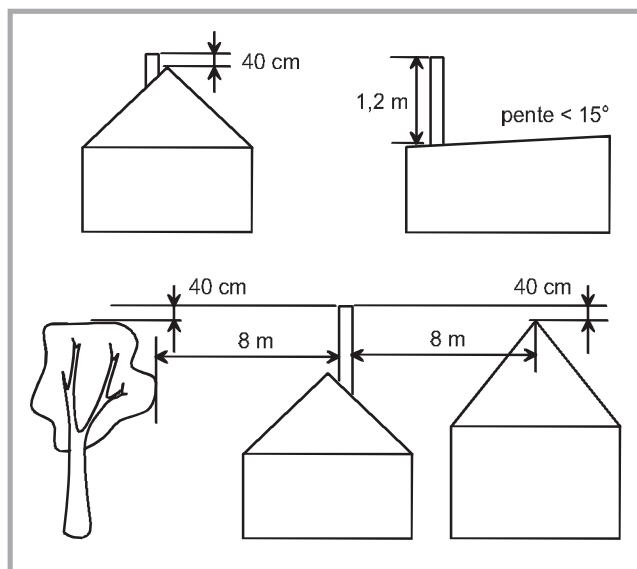

Figure 5 - Flue upper section height
- The chimney must be at least 4.5 m (15 ft) high and be at 40 cm above the ridge of the roof and 8 meters away from any construction (fig. 5).
- In case of a flat roof or when the roof gradient is lower than 15°, the stack must be 1,2 m (4 feet) high at least (fig. 5).